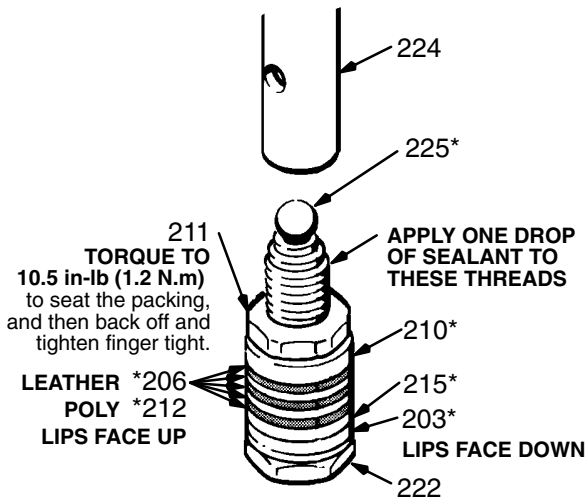

Fig 35-1
7. Clamp the flats of the piston rod in a vise. Loosen the retaining nut (211). Unscrew the piston valve (222) from the rod. Remove all parts from the piston valve (222). *Refer to Fig 35-1.*
NOTE: Alternate leather and plastic packings as shown in Fig 35-1. The lips of the throat "V" packings must face down, against pressure. The lips of the piston "V" packings must face up, against pressure. The lips of the U-cup seal (203) face down. Incorrect installation damages the packings and results in pump leaking.
1. Check the outside of the piston rod (224) and the inside of the sleeve (218) for scoring or scratches. If these parts are damaged, new packings will not seal properly. Replace these parts if needed.
2. Stack the backup washer (214), seal (203*), female gland (215*), alternate the packings (212*, 206*), and then male gland (210*) onto the piston valve (222). *Refer to Fig 35-1.*
4. Place the ball (225) on the piston valve (222). Refer to Fig 35-1.
5. Apply one drop of adhesive, supplied, to the threads of the piston valve. Then hand tighten the valve assembly into the piston rod just until the nut (211) contacts the rod. Refer to Fig 35-1.